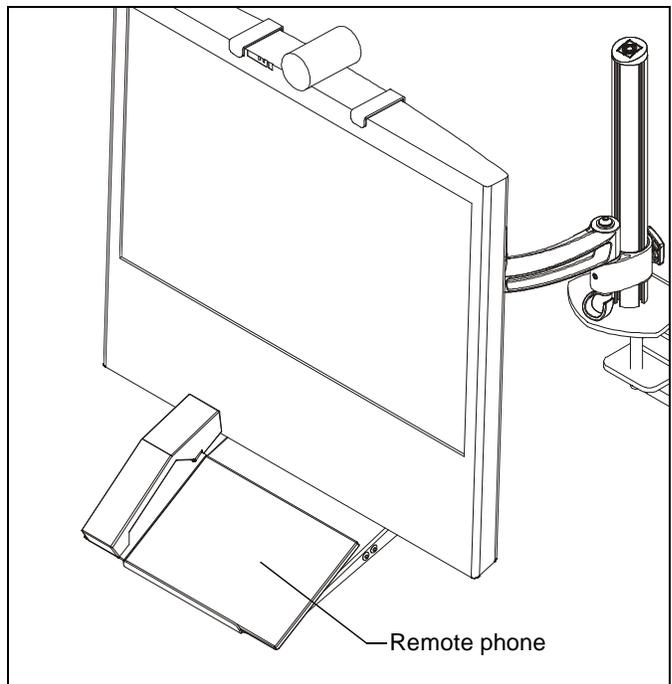

Figure 8
14. Remove paper from hook and loop squares and place remote phone on shelf assembly, pressing it against the hook and loop squares. (See Figure 8)